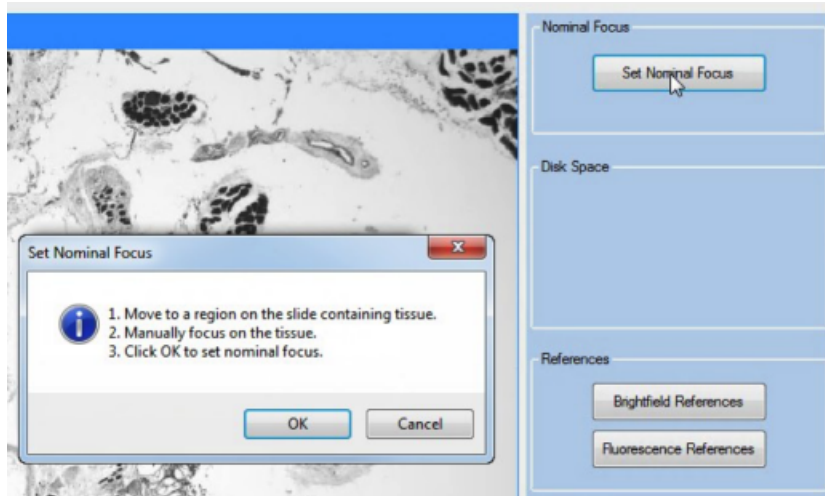

Figure 14. Set Nominal Focus Instructions
5. Click the **Set Nominal Focus** button. The microscope light turns on, the live stream displays in the System Dashboard window, and the Set Nominal Focus window displays as shown in Figure 14.